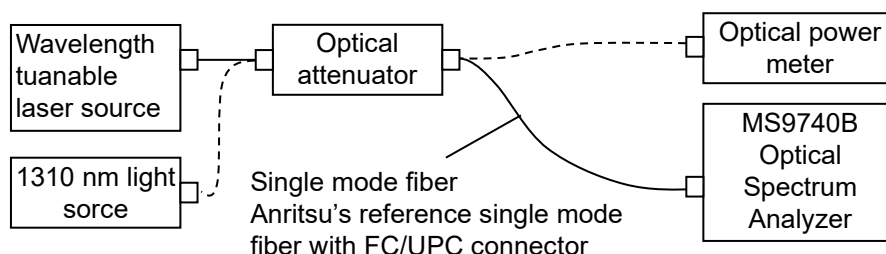

Figure 7.2.2-1 Level Accuracy Test Setup
1. Connect the MS9740B and the wavelength tunable laser source as shown in Figure 7.2.2-1.